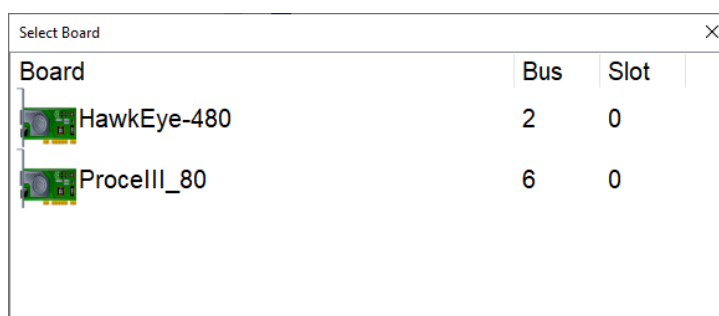

Figure 3: Board Selection
2. If multiple Proc boards are installed on the host computer, you will be prompted to select a board (Figure 3). Select your board of choice and click **OK**.